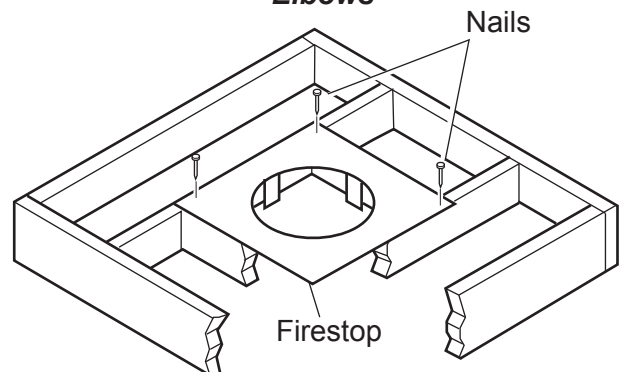
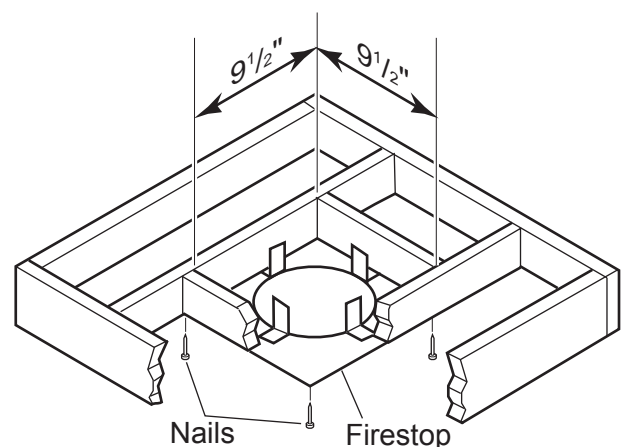

Figure 31 - If Area Above is a Room, Install Firestop above Framed Hole as Shown
Figure 32 - If Area Above is Not a Room, Install Firestop above Framed Hole as Shown
1. Cut a 9 $\frac{1}{2}$ " (241 mm) square hole in the ceiling using the locating hole as a center point. The opening should be framed to 9 $\frac{1}{2}$ "x9 $\frac{1}{2}$ " (241 mm x 241 mm) inside dimensions as shown in Figure 32 using framing lumber the same size as the ceiling joist. If the area above the ceiling is an insulated ceiling or a room, nail firestop from the top side. This prevents loose insulation from falling into the required clearance space. See Figure 31. Otherwise, install firestop below the framed hole. See Figure 32.
2. Cut the hole 1/8" larger than the support box outline. See Figure 32.
3. Lower the support box through the hole in the roof until the bottom of the box extends at least 2" below the ceiling. See Figure 32. Align the support box vertically and horizontally using a level. Temporarily tack the support box in place through the inside walls and into the roof sheathing.